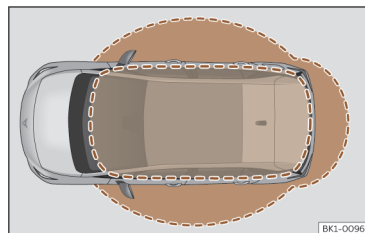

Fig. 71 Keyless Access: proximity zones.
- The vehicle is unlocked when the vehicle key is detected nearby >>> **Fig. 71**. All turn signals flash twice.